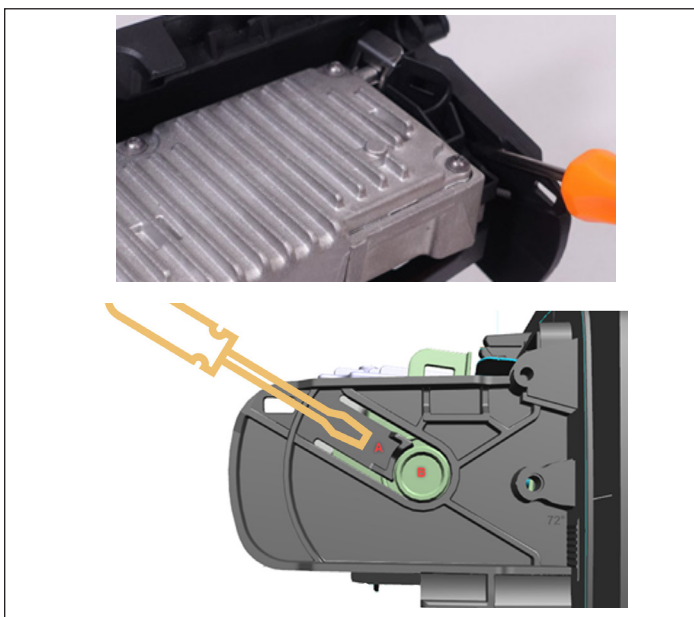

Figure 7 – Camera Removal
3. See *Figure 7*. Use a screwdriver to pry the locking beam (A) away from the hub (B) on the right side of the bracket.